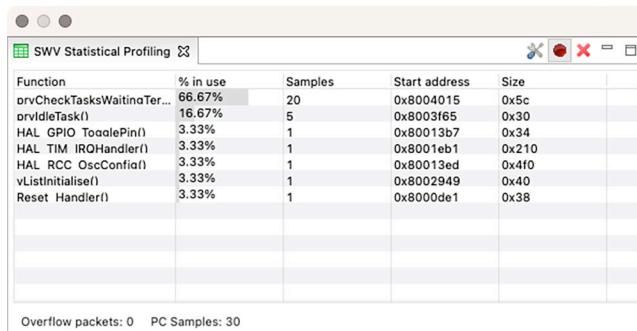

Figure 24.29: The SWV Statistical Profiling view
The **SWV Statistical Profiling** (see Figure 24.29) view displays statistics based on Program Counter (PC) sampling. It shows the amount of execution time spent within various functions. This is useful when optimizing code. The data can be copied and pasted into other applications. The view is updated when debugging is suspended. To enable profiling, follow these steps: